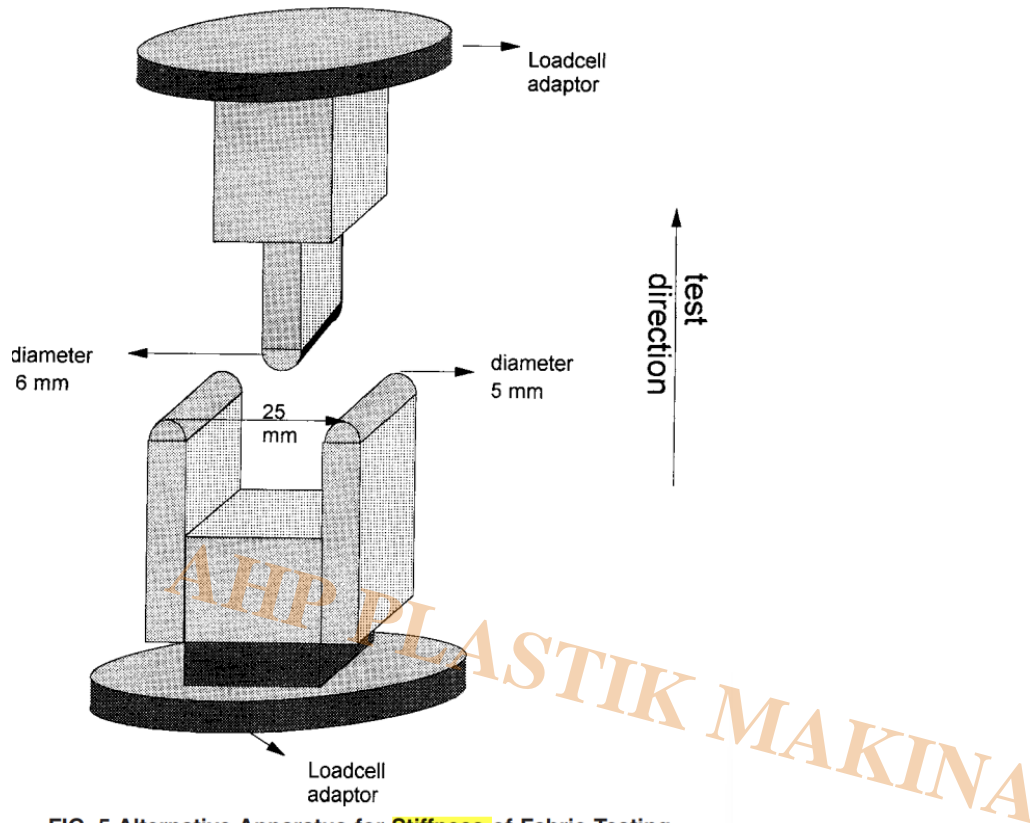

FIG. 5 Alternative Apparatus for **Stiffness** of Fabric Testing
38.4.3.1 For CRE-type tensile testing machines, which are able to measure under compression, a 3-point bending fixture with a distance between the lower rollers of 25-mm (1-in.) can be used in place of the above described specimen holder. The lower rollers have a radius of 5-mm (1/4-in.) and the upper roller has a radius of 6-mm (1/4-in.) (see Fig. 5).